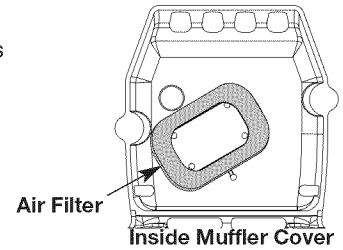

Fig. 13
- Turn cover over and look inside to locate the air filter. Remove the air filter from inside the air filter/muffler cover (Fig. 13).
- Replace the air filter inside the air filter/muffler cover (Fig. 13).
- Insert the four (4) screws into the holes in the air filter/muffler cover (Fig. 13) and tighten. **Do not over tighten.**